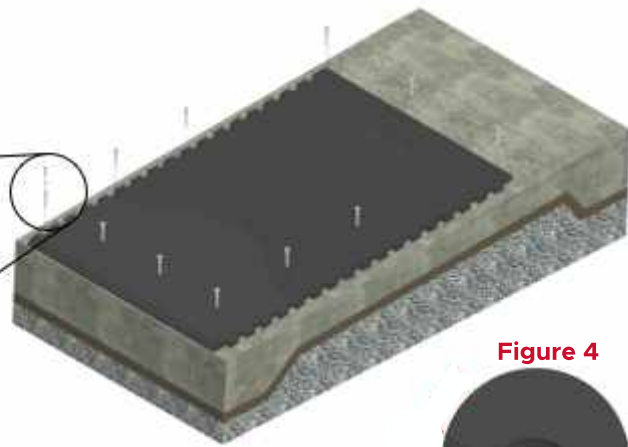

Figure 4
- Ensure that the fixings are used at the recessed fixing points on the mat. (See Figure 4)